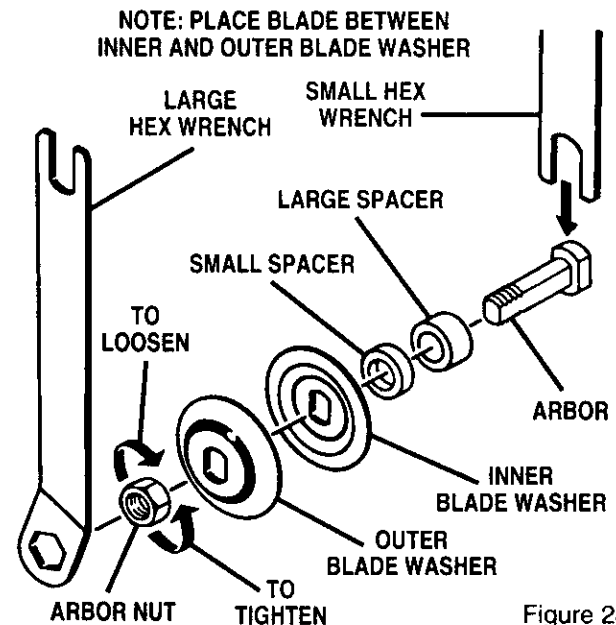

Figure 28
- Place the open end of the small hex wrench into the slot beside the blade. The wrench will fit over two flats on the arbor (blade shaft). See Figure 28.